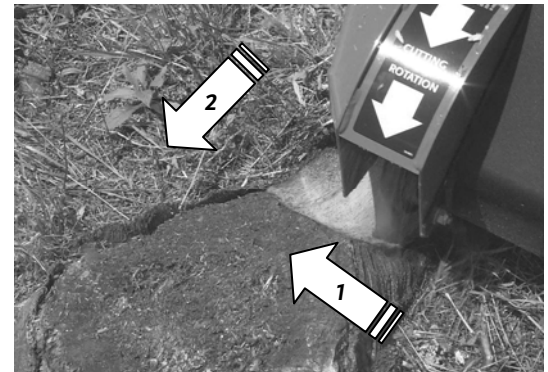

Figure 32
7. Swing the Cutter Head over to the right side (**Figure 32** arrow #1), advance the machine forward (arrow #2) by releasing and resetting the brake. The machine should only be advanced far enough to engage the Cutter Head into the stump so that when swept across the stump it will remove 1/2" to 1" of stump with each sweep.